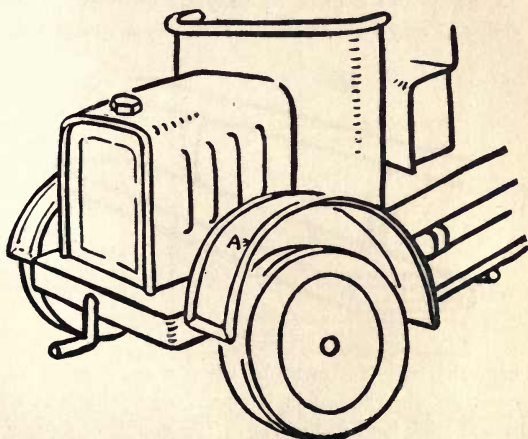

FIG. 83
**Mud Guards and Running Boards.**—Mud guards may be made from a part of the side and bottom of a can as shown in Fig. 83. A 3-inch can is the best size to use for the truck. The can is cut down to a height of  $1\frac{1}{8}$  inches and then cut into two parts across the bottom so that two mud guards may be made from each can. The outer edges are turned
as in making a tray and folded pieces are slipped over the ends as shown in Fig. 83. These mud guards are soldered to the frame in the position shown.